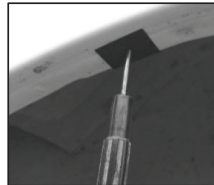

Figure 8
4. Using an awl or similar sharp tool, push through the black tab into the factory holes as shown in **Figure 8**.